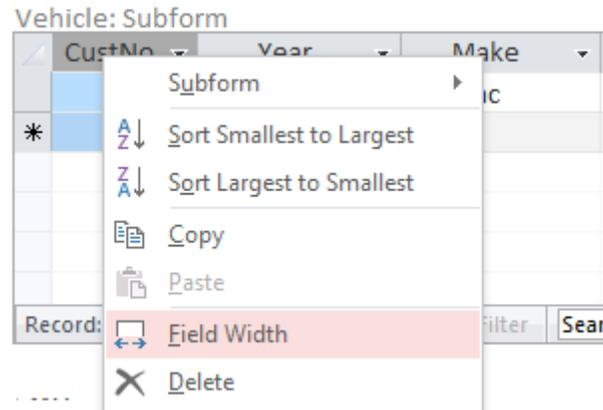

Figure 36: Selected Column and Right Mouse Shortcut Menu
5. Modify the Subform: Toggle to Form view and you will modify the size of the *CustNo* column to "Best Fit". Select the *CustNo* column and right-mouse-click to open the shortcut menu (Figure 36). Select **Column Width...** and choose "Best Fit" from the dialog box. Close and answer "Yes" to save the form when prompted.